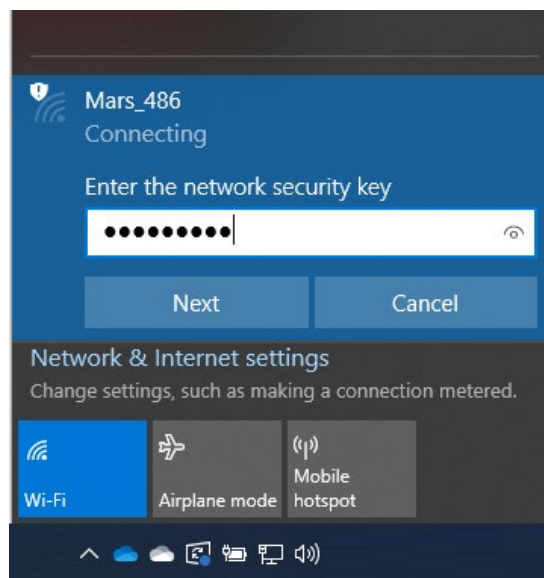

Figure 3-2: Selecting the Mars unit's Wi-Fi network for configuration
- For example, on a Windows PC you may see a dialog similar to **Figure 3-2** by accessing the network selection icon in the lower right corner of the screen.